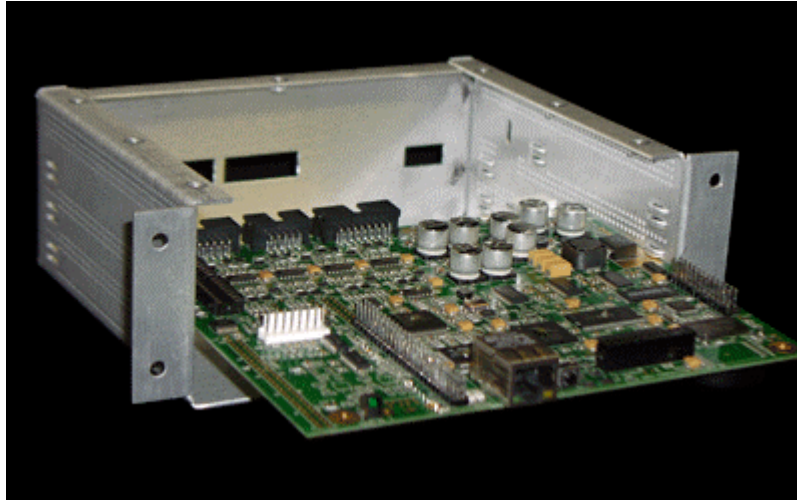

Figure 6.3.4 – Main TEALwatch® PCB slides out of the enclosure.
- Step 9. The main TEALwatch® module PCB slides out of the enclosure as it is mounted on slide rails built into the module chassis. Remove the PCB from the enclosure as shown in Figure 6.3.4.